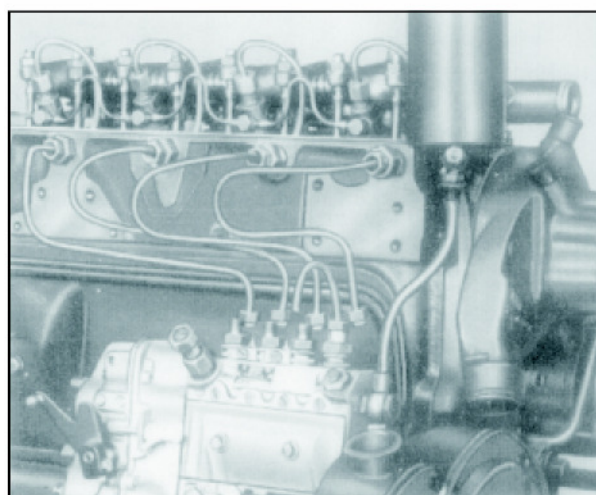

Fig. 7
5. Install swan neck tube, 312 589 0223, on this holder. Fig. 7
6. Connect diesel bowl pipe to the fuel injection pump gallery. Fig. 7